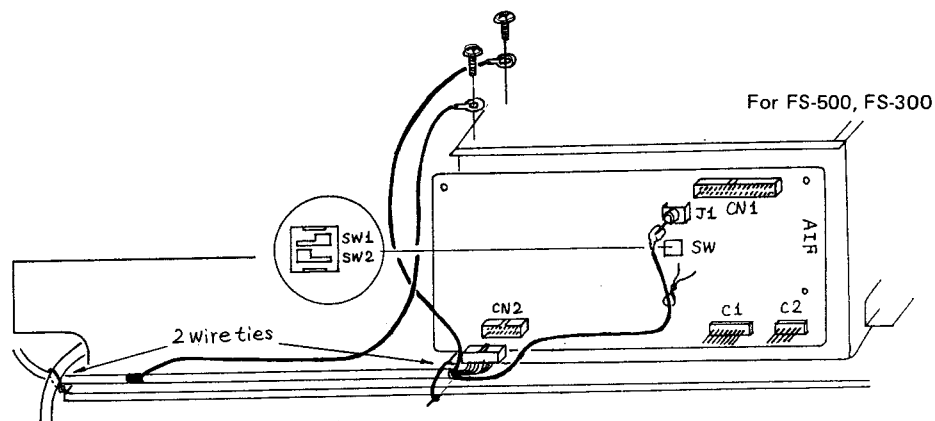
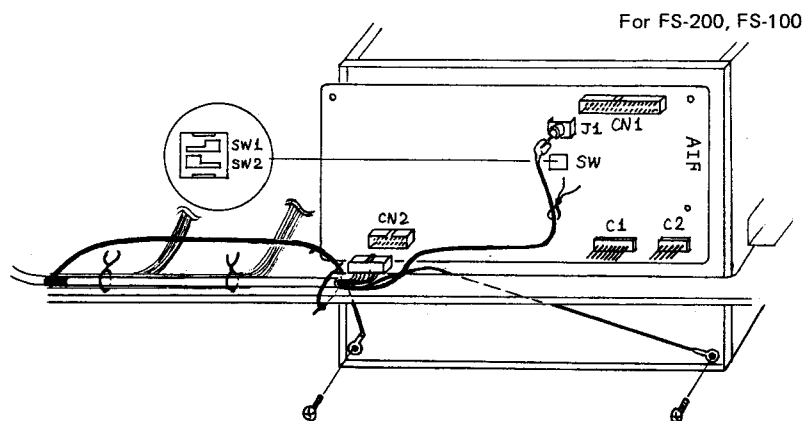

Fig. 4
Fig. 5
9. Connect the ground wires as shown in figure 4 (FS-500, FS-300) or in figure 5 (FS-200, FS-100) by removing digital circuit cage securing screws.
10. Attach the AIF circuit board (supplied in the installation kit) to the back side of digital circuit board cage as shown in figure 4 or 5.
Note: Please check the position of switches SW1 and SW2 (see figure 4 or 5). For models FS-500 FS-300 FS-200 and FS-100 set switch 1 to the right and switch 2 to the left (when viewed in mounted position).
11. Plug the 16 pin shielded cable connector into socket CN2 and the phono-type pin plug into J1 of the AIF circuit board (see figure 4 or 5). Place the excess shielded cable in the slot formed by the digital board cage and the shelf in the organ. Tie the shielded cable close to the AIF board. A cable tie has been provided on the board for the shielded cable that connects to J1.
12. Tie the 16 pin cable as shown in figure 4 (FS-500, FS-300) or figure 5 (FS-200, FS-100), using the supplied wire ties.